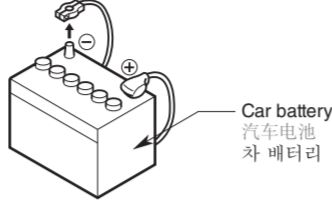

Figure 1 / 图 1 / 그림 1
- 3. Be sure to disconnect the battery terminal before starting. This is to prevent short circuits during installation. (Figure 1)
- 3. 开始之前请务必断开电池的“⊖”端子, 以免在安装中造成短路。(图1)